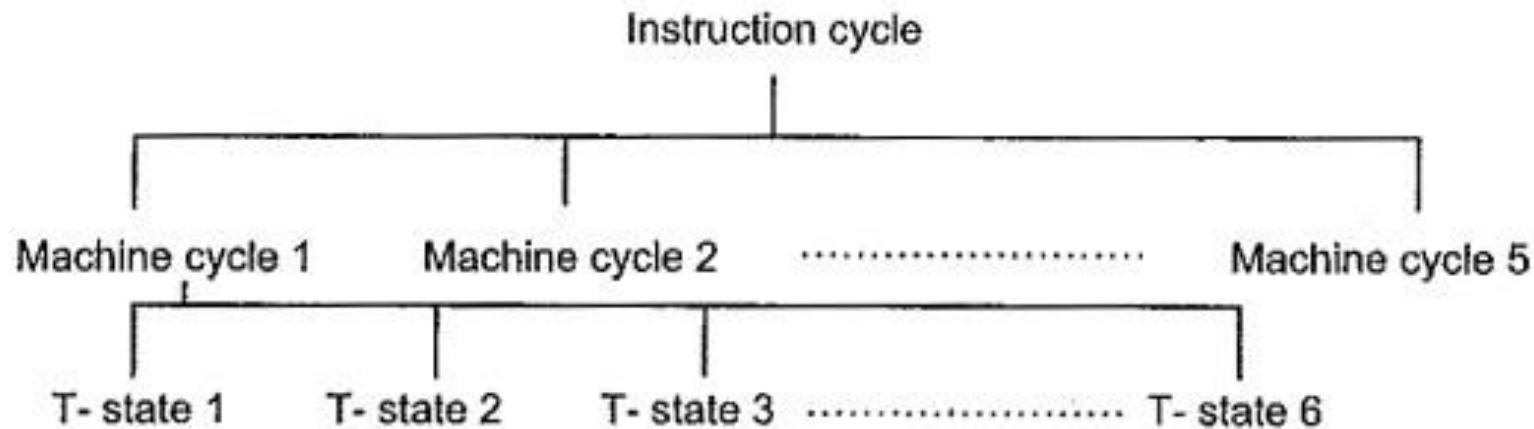

Fig. 1.4 Relation between instruction cycle, machine cycle and T-state
- ❖ Therefore we can say that, one Instruction Cycle of 8085 consists of one to five machine cycles and one machine cycle consists of three to six T-states i.e. three to six clock periods, as shown in the Fig. 1.4.